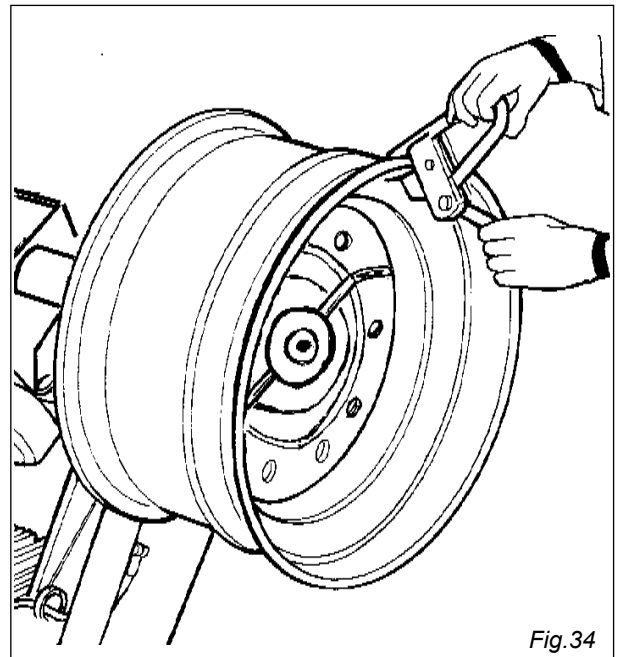

Fig.34
3) Attach the g-clamp to the outside edge of the rim at the highest point (Fig. 34).